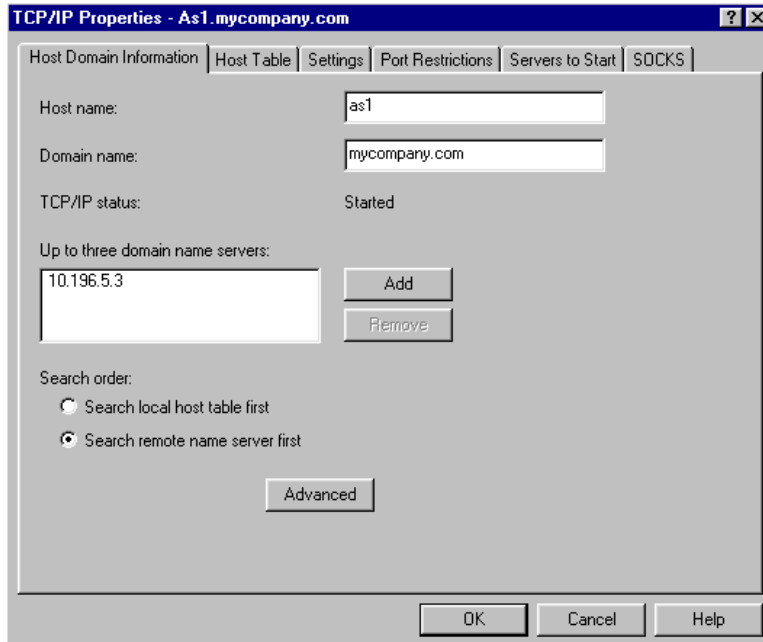

Figure 323. Host Domain Information
2. Select **Properties (E)** from the context menu to make detailed changes to the configuration of your TCP/IP interface. Figure 323 on page 546 shows the TCP/IP Properties window. Click **Host Domain Information** to specify the host domain information for your AS/400 TCP/IP communication. Specify the host name, the domain name, and up to three domain name servers. You can also specify the search order and set advanced TCP/IP settings.
- **Search order:** Specifies whether you want the local host table searched before the domain name server. Figure 323 on page 546 shows the Host Domain Information dialog.